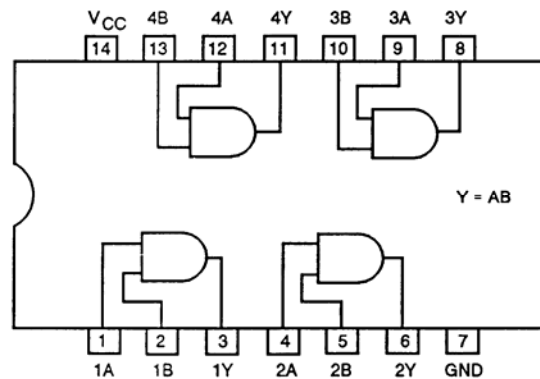

Figure Q-6. 7408 Quad-Two Input AND Gate
(1) A typical IC that performs the AND function may have four gates in one IC or there may be only one gate depending on the inputs. AND gates are not listed to two inputs. A typical IC containing AND gates is shown in Figure Q-6.
(3) Also, on the IC device itself, there is usually a notch on one end. While holding the notch to your left and starting with the bottom left pin that is number 1, you can count the pin numbers in a counterclockwise direction. Refer back to Figure Q-6.